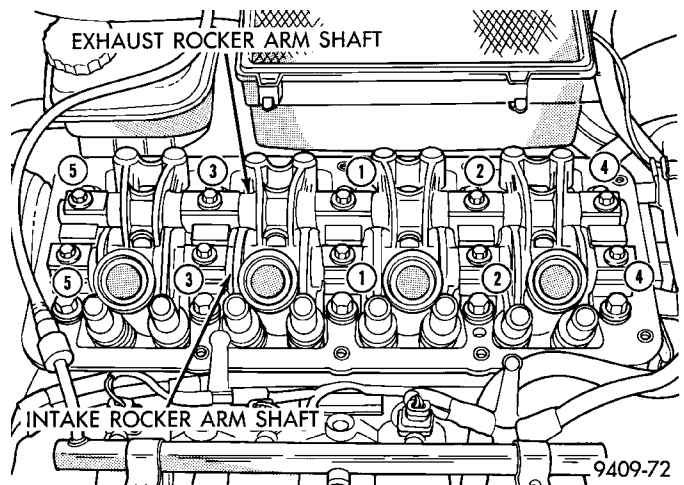

Fig. 28 Rocker Arm Shaft Tightening Sequence
(3) Tighten bolts to 23 N·m (200 in. lbs.) in sequence shown in (Fig. 28).